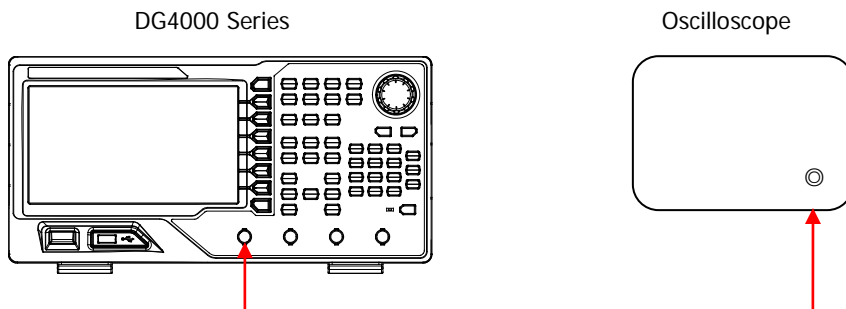

Figure 2-5 Connect DG4000 and Oscilloscope
1. Connect CH1 of DG4000 and the signal input terminal of the oscilloscope using dual-BNC cable as shown in Figure 2-5. Press **Preset** at the front panel of DG4000 to restore the instrument to its default setting.